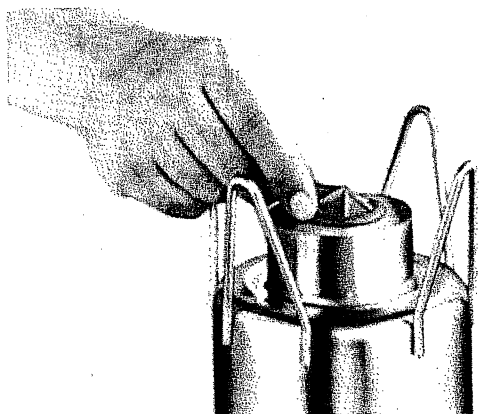

Figure 1
2. To install diffuser, bend it between the thumb and forefinger as shown in Figure 1, so that it is bent into an oval shape over the middle finger. Work the crease in the diffuser around the metal rim of the opening in the bottom of the container.